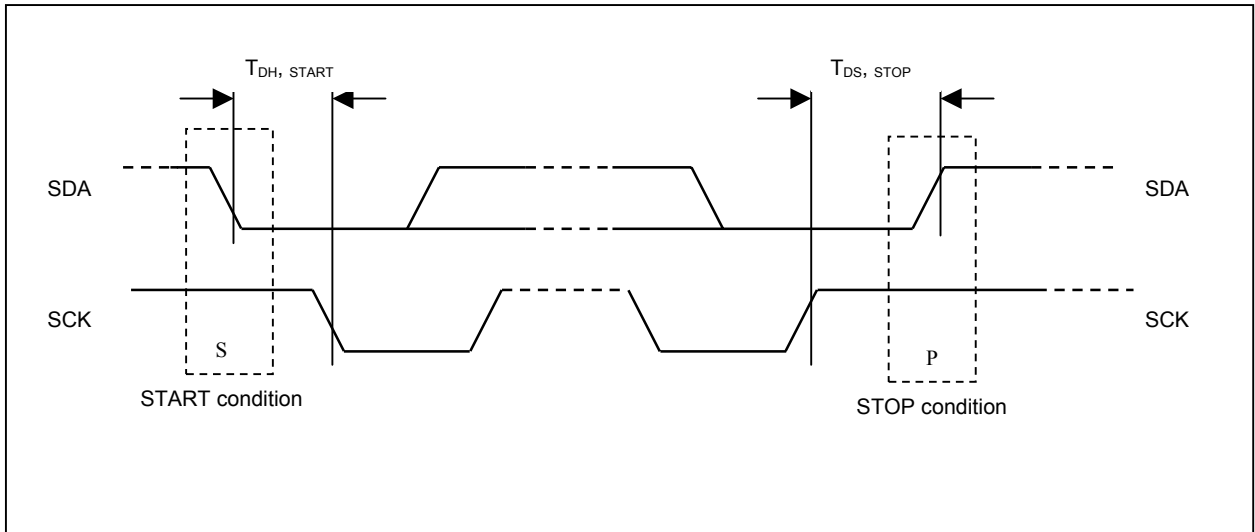

Figure 12 - Definition of the start and stop condition
- 1) The master device initiates the data communication by a start condition. The definition of the start condition is shown in Figure 12. The start condition is established by pulling the SDA from high to low while the SCK stays high.
7) The write mode will be finished when a stop condition is applied. The stop condition is also defined in Figure 12. The stop condition is established by pulling the “SDA in” from low to high while the “SCK” stays high.